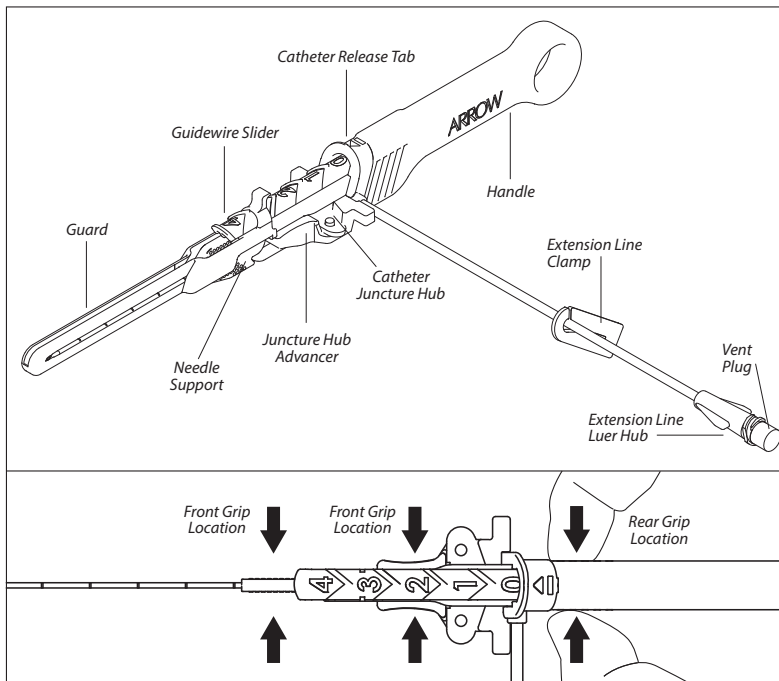

Figure 1
The ARROW Endurance™ catheter system is a sterile, single use peripheral intravascular device designed to permit access to the peripheral vascular system. The insertion device consists of an ergonomically designed handle with an integral echogenic needle that contains a passively-activated needle protection mechanism, guidewire with slider advancer, catheter release tab, and single-lumen catheter (refer to Figure 1). The insertion device is designed to allow the user to intuitively advance the guidewire and release the catheter with minimal insertion steps. The catheter is advanced over the needle and threaded over a guidewire into a peripheral vessel.
4. Check that extension line clamp is not engaged and vent plug is secure (refer to Figure 1).
- Optionally, front grip locations (refer to Figure 1) may be utilized. If utilized, switch to rear grip location prior to catheter advancement.